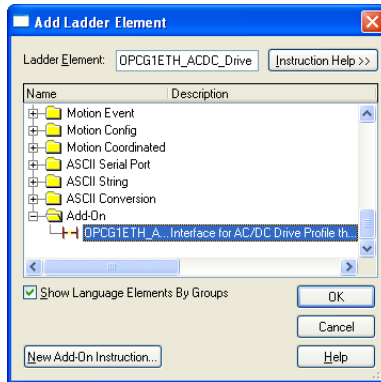

Figure 93: Add AC/DC Drive Profile Add-On Instruction
- 8) Select the AC/DC drive profile add-on instruction in the Add-On folder. Refer to Figure 93.